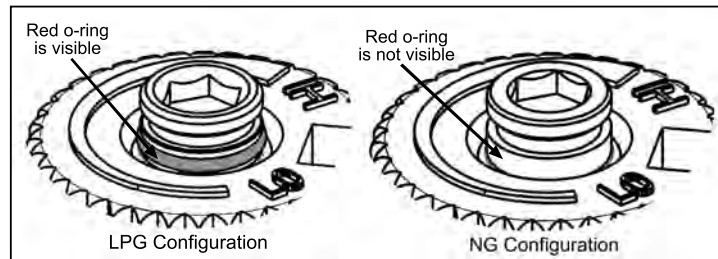

Figure 12: O-ring on valve screw.
- Verify that if the conversion is from NG to LPG, the screw must be re-assembled with the red o-ring visible (refer to Figure 12). If the conversion is from LPG to NG, the red o-ring of the screw must be not visible.